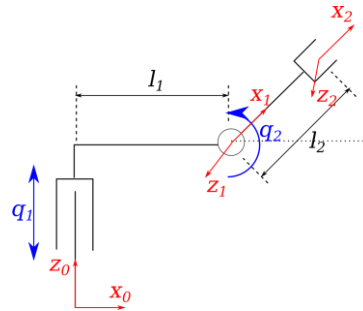

Figure 3
- b) For the **Planar** mechanism shown below (Fig. 3) do the following: